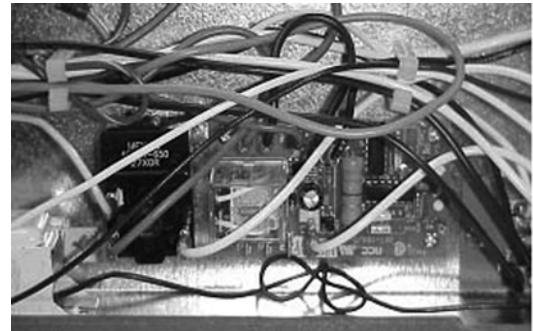

Figure 1: Timer Board
1. Disconnect all the terminals from the agitator timer board (**Figure 1**). Remove the timer board from the chassis and discard.